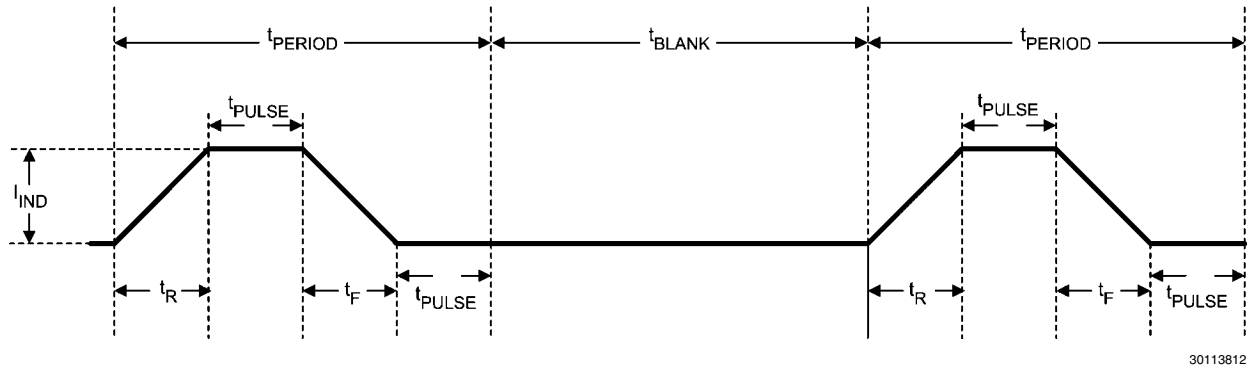

FIGURE 8. Message Indicator Timing Diagram
2. Number of periods (PERIOD #). This has 8 steps. A period (t_{PERIOD}) is found by ($t_{\text{PERIOD}} = t_{\text{R}} + t_{\text{F}} + 2 \times t_{\text{PULSE}}$). (see Figure 8 for indicator timing).